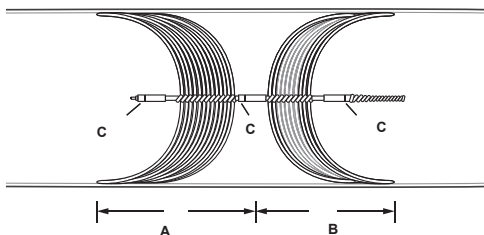

Figure 3: Position and Detachment Zones (Caterpillar™)
- The Caterpillar™ Arterial Embolization Device can only be re-positioned when the Detachment Zone is still in the delivery catheter (Figure 3). If the Detachment Zone is deployed, but re-positioning is required, retrieve and discard the device. A replacement device must then be used.
9	Once the loader is removed, continue to use the delivery wire to advance the device into the catheter under fluoroscopic guidance until the distal radiopaque marker is at the distal tip of the catheter (Figure 3, C).